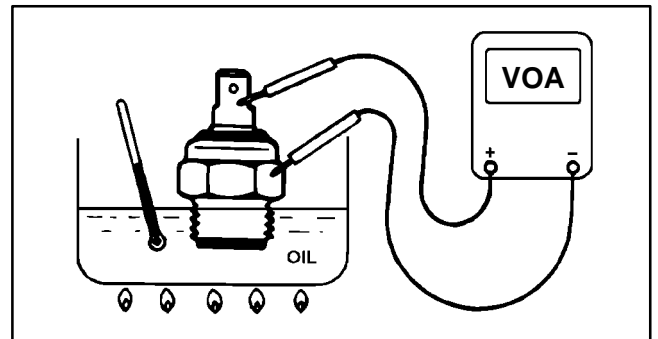

Figure 34
2. Put switch in a container of oil with a thermometer and slowly heat the oil (Fig. 34).